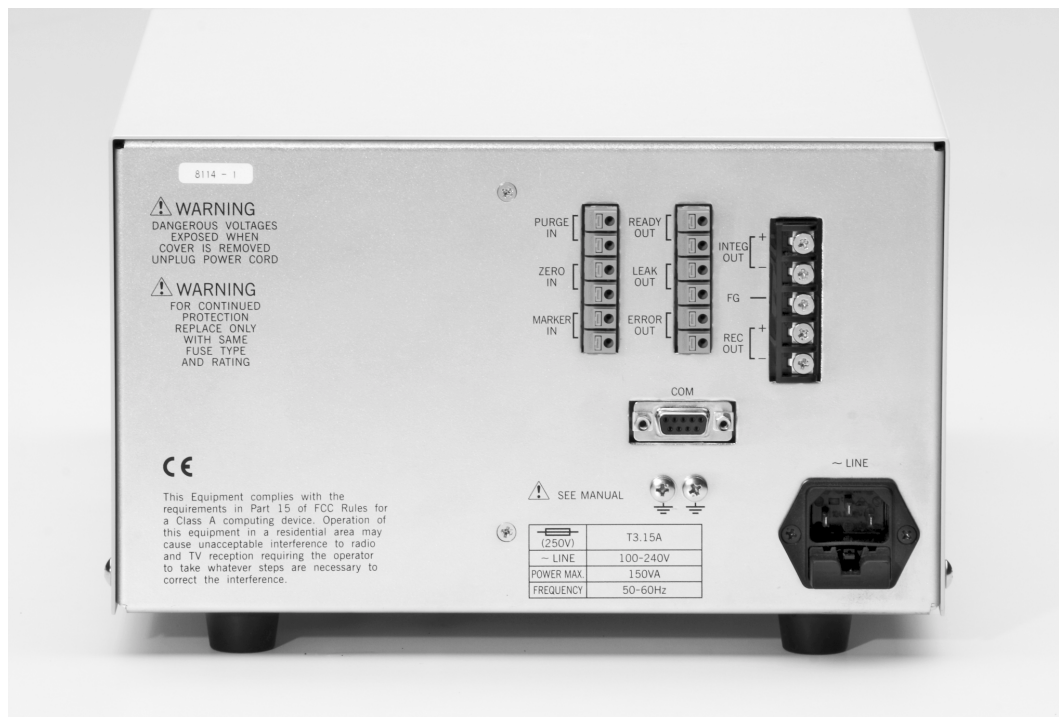

Figure 5 Rear Panel Controls
Ground the detector using the grounding cable supplied in the Accessory Kit. Connect the circular end to one of the grounds on the back panel (see Figure 5) and the alligator clip end to a known ground.
NOTE: The ground posts below the COM port on the rear panel (see Figure 5) are not the same as the cable shield ground (FG) terminal. Do not interchange these connections.